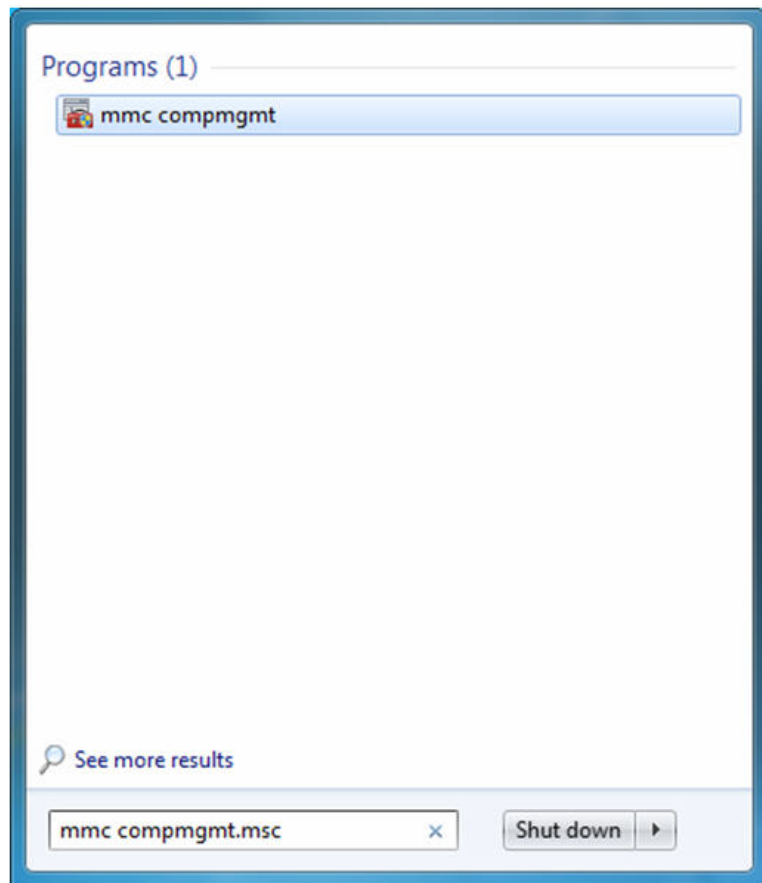

Figure 14. Windows Server 2008 and Windows Server 2008 R2 Search Box
1. Select the Start button. See Figure 14.